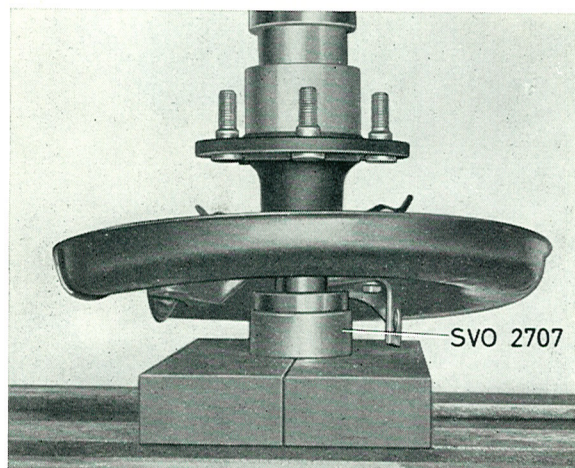

Fig. 4-83. Fitting the drive shaft bearing
11. Place the brake backing plate and brake shoe retainers on the drive shaft. Fit the lock ring and bearing in the cushioning ring SVO 2707. Fit in the drive shaft and place the whole assembly in a press. Press on the drive shaft until the bearing and lock ring are in position, see Fig. 4-83.